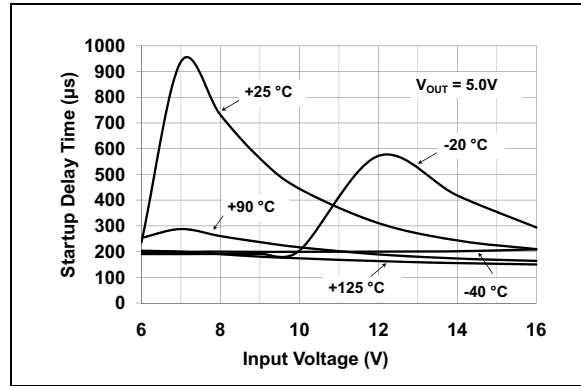

FIGURE 2-34: Start-up Delay From SHDN to 90% V_{OUT} .
- Note 8:** See **Section 4.6 “Shutdown Input (SHDN)”** and **Figure 2-34**.